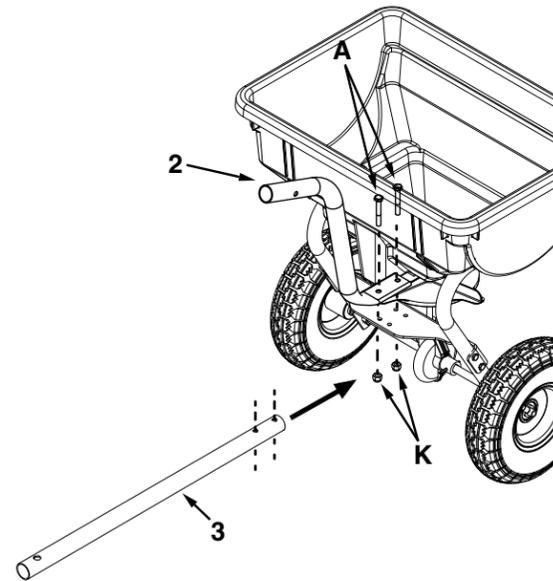

Figure 8
STEP 8 (SEE FIGURE 8): Attach the control tube (2) and the hitch tube (3) to the assembly using two 1/4 x 1-3/4" hex bolts (A) and nylock nuts (K). Tighten hardware.